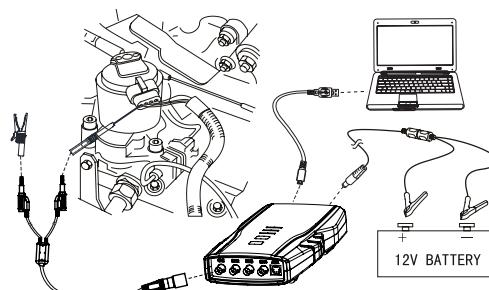

Fig. 36: Equipment connection
- Connect equipment according to Fig.36, switch on power supply.